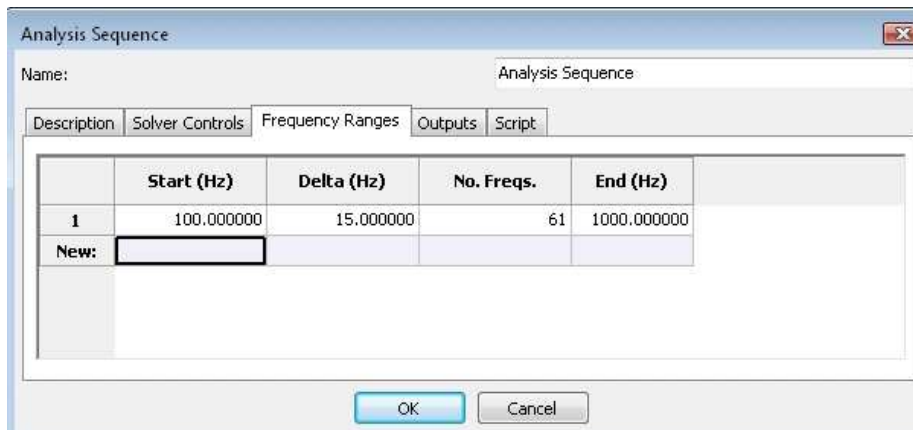

Figure 21: Set analysis frequencies.
- Move onto **Frequency Ranges** tab to specify analysis frequencies. Refer to Figure 21.